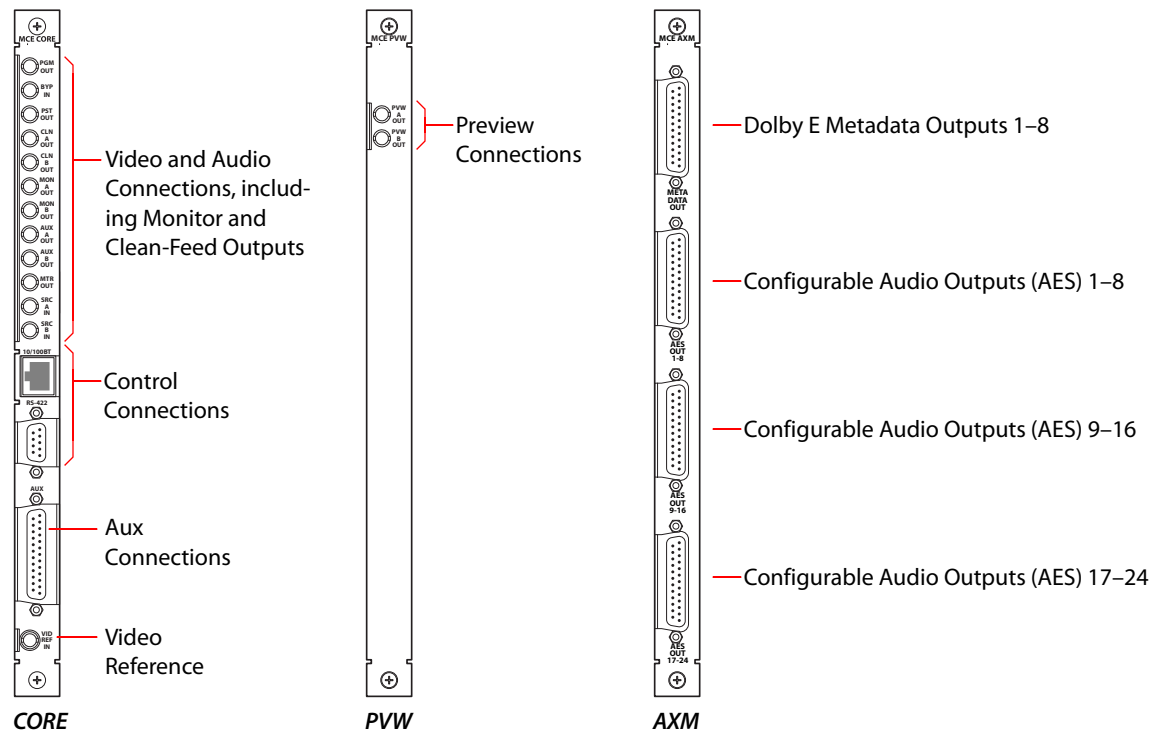

Fig. 2-5: MCE Backplanes
Figure 2-5 shows the (3) backplane connectors of the MCE: